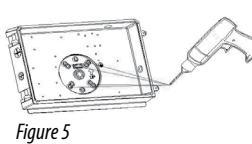

Figure 5
5. Drill through the mounting hole with an electric drill matching the mounting pattern of the electrical junction box. If optional sensor is to be installed, refer to 1-pin sensor socket installation guide for instructions. (Figure 5)